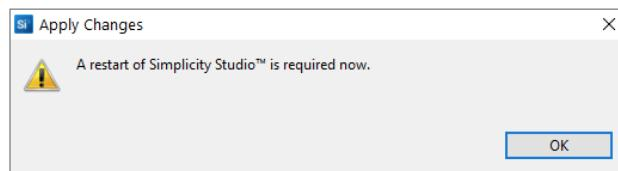

Figure 3.7
- 6) When the installation is complete and click "OK" to restart SSV5, as shown in figure 3.7